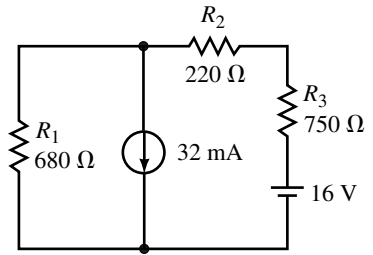

FIGURE 9-76
2. Use superposition to determine the voltage drop across each of the resistors of the circuit in Figure 9-76.